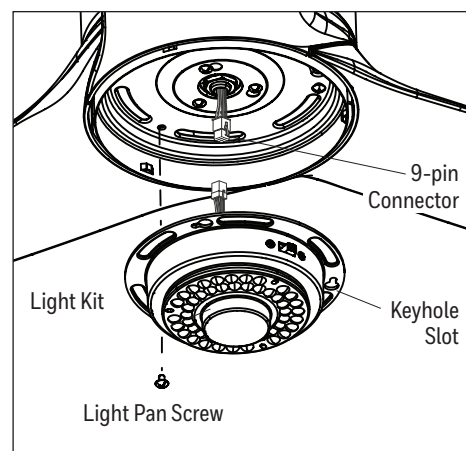

Figure 5.6
6. Remove one of the three light pan screws from the light pan and loosen the other two but do not remove. Connect the 9-pin connector from the light pan to the 9-pin connector from the light kit. Lift the two keyhole slots in the light kit over the two loosened light pan screws and turn in a clockwise direction. Then, use the previously removed light pan screw to secure the light kit to the light pan. Tighten all screws (Figure 5.6).